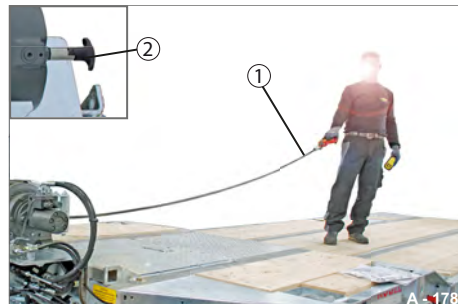

Fig. 225 Example: Uncoiling the cable
- ▶ Check to make sure the clutch lever (Fig. 225/2) is latched into position.
The cable (Fig. 225/1) will unwind slowly.